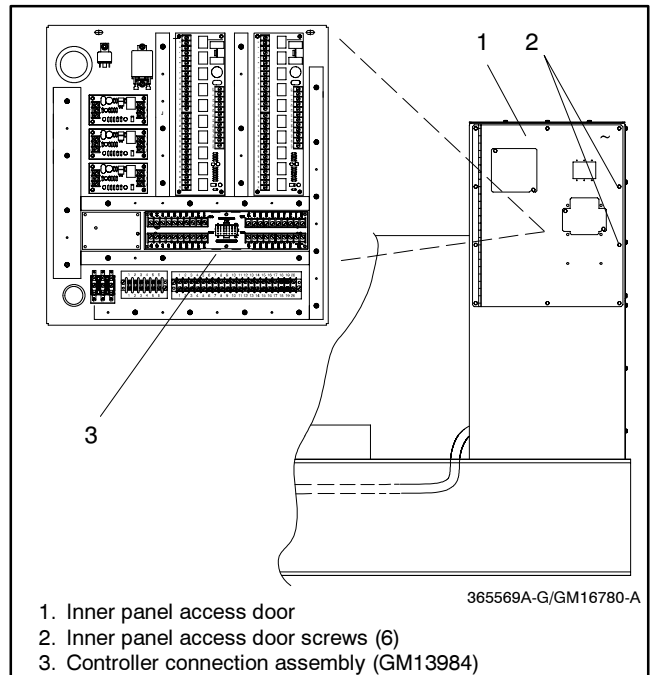

Figure 4 Terminal Block Bracket Mounting in Junction Box (450-2000 kW)
2.3.3 Attach the controller connection assembly (GM13984) to the junction box inner panel studs using six spacers (X-712-9) and nuts (X-70-12). Place the spacers between the controller connection assembly and the mounting bracket. See Figure 4 for the mounting location.